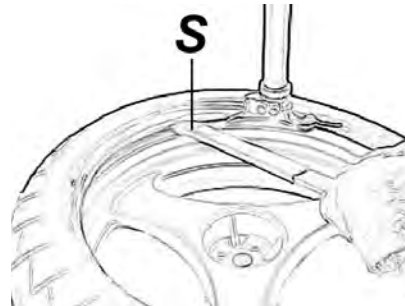

Fig. 4.3-1
- After installing the bottom bead, inserts the tire tool to the left of the bead head as shown (Fig. 4.3-1). To protect decorative rims use protective sleeve #EAA0247G04A (S).